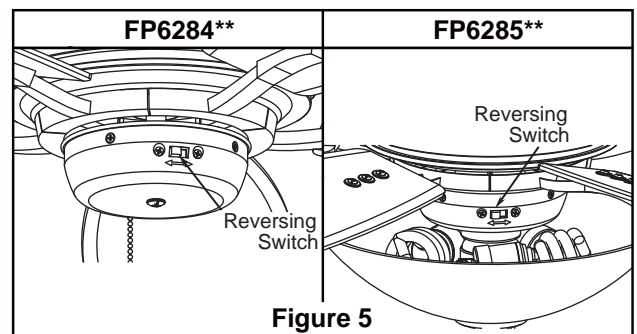

Figure 5
- 5.** Insert light bulbs into sockets. (Figure 5)
- 5. If airflow is desired in the opposite direction, turn the fan off and wait for the blades to stop turning. Then slide the reverse switch to the opposite position and turn fan on again. (Figure 5)